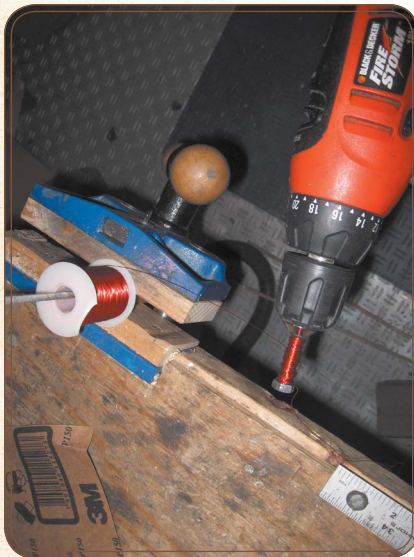

Figure 2.12: Wrapping the magnet wire around the bolt to make your electromagnet
5. With a helper holding the magnet wire spool so it is free to spin, start the drill and wrap the wire around the bolt, using an up and down motion so the wire turns are distributed as evenly as possible. Stop winding when there is a foot of wire left and tie it off so it does not unravel (see Figures 2.12 and 2.13).